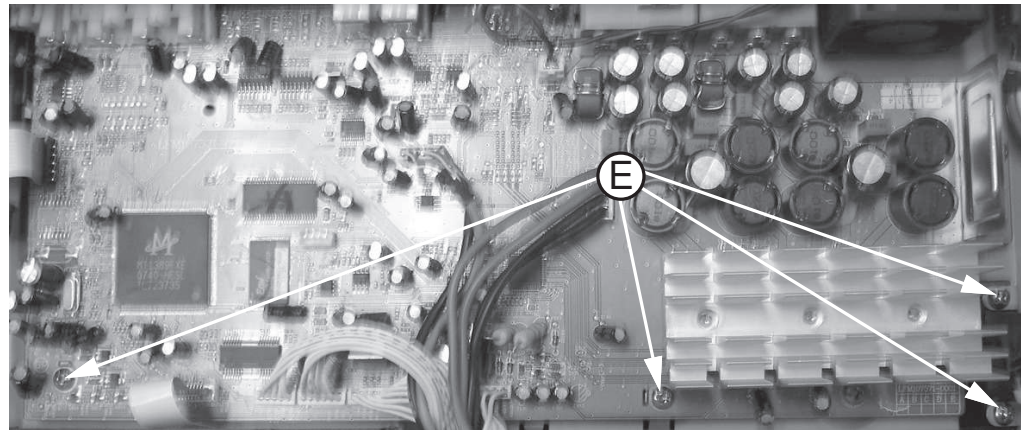

Figure 9
- 1) Loosen 4 screws "E" on the top of main board as shown in figure 9.